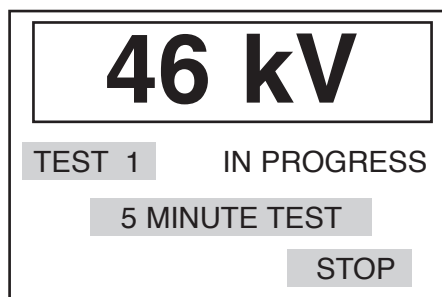

Figure 6 Example Voltage Screen
2. After the initial stand time is complete the high voltage test is switched on and applied to the oil sample. The screen display showing 'TEST 1' appears, similar to that shown in figure 6.
2. After the initial stand time is complete the high voltage is switched on and slowly applied to the oil sample. The screen display appears similar to that shown in figure 6.
2. After the initial stand time is complete the high voltage is switched on and applied to the oil sample. The screen display appears similar to that shown in figure 6. The sub-display shows the voltage applied to the oil sample; this voltage is rising at the rate of 3 kV/s. It continues until breakdown occurs (or up to maximum). The high voltage warning light is illuminated during this time. The number of the test in the sequence is shown and the words 'IN PROGRESS' appear.
2. After the initial stand time is complete the high voltage is switched on and applied to the oil sample. The screen display appears similar to that shown in figure 6. The sub-display shows the voltage applied to the sample oil; this voltage is rising at the rate of 0,5 kV/s. It continues until breakdown occurs (or up to maximum). The high voltage warning light is illuminated during this time. The number of the test in the sequence is shown and the words 'IN PROGRESS' appear.
4. The display will now assume the standard format as shown in figure 6. Use of the right hand key reverts the user to the main menu. Upon attaining the upper voltage limit the display will indicate the elapsed time of voltage application until one minute has elapsed or breakdown has occurred.